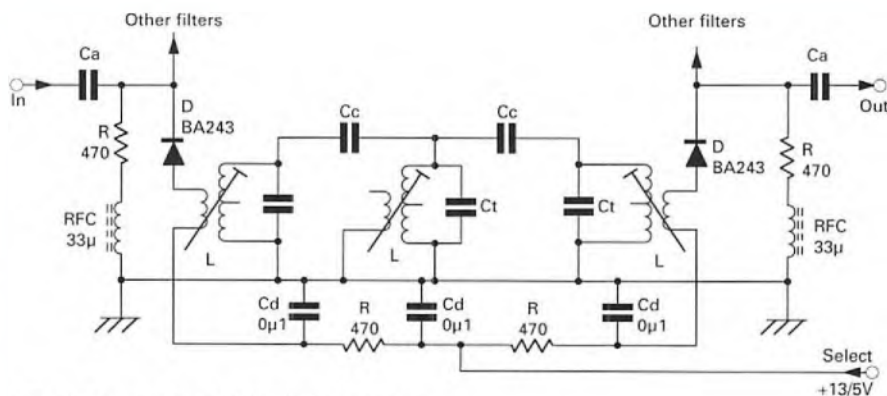

Fig. 3: Front-end part of the MMRX circuitry.
The circuit shown here as **Fig. 3** is for a development I did in 2012 and 2013 for filters for each of the high frequency (HF) amateur bands and produced a 5-band printed circuit board to suit.